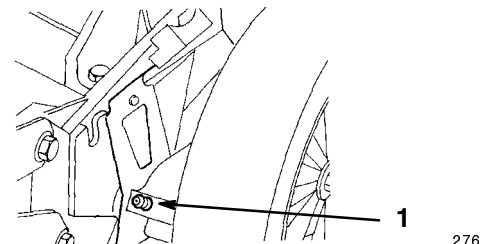

Figure 18
- Wipe the grease fittings on the rear height-of-cut adjusters (Fig. 18) with a clean rag.